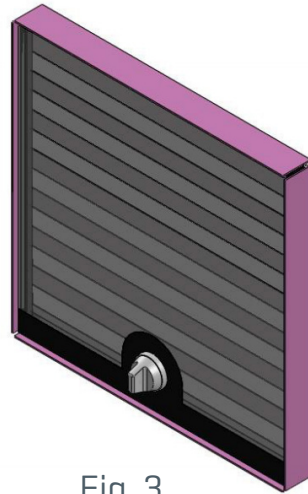

Fig. 3.
7. Apply this to the perimeter of the panel. [Fig. 3.]